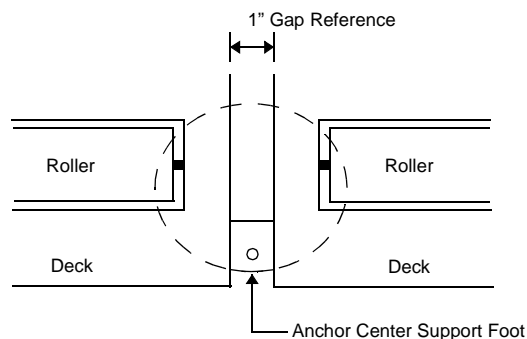

Figure 2-2: Anchoring Center Support Feet
3. After the legs have been adjusted to the correct height, secure them into position by placing 5/8-inch anchor bolts through each support foot. Using the existing holes as a guide, install two anchors 180° apart in each corner support foot. Install one anchor in each center support foot. The holes for anchoring the center support feet will have to be drilled through the opening between the two decks (see Figure 2-2).